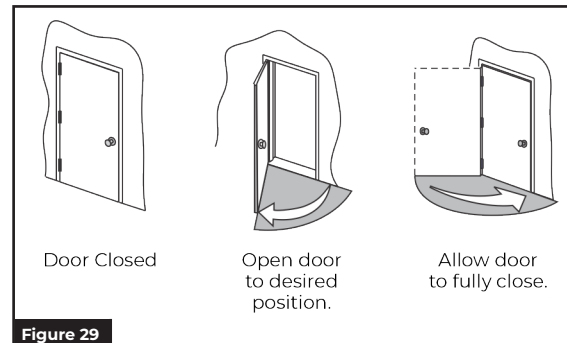

Figure 29
- Push in on joystick again, while door is still closed, to set Home or closed position (Figure 29). Display changes to "Set Open Limit".
- Open door to desired open position (Figure 29) and push in on joystick again. Display changes to "Closing to Home".
- Allow door to fully close again (Figure 29). Display changes to "Home".